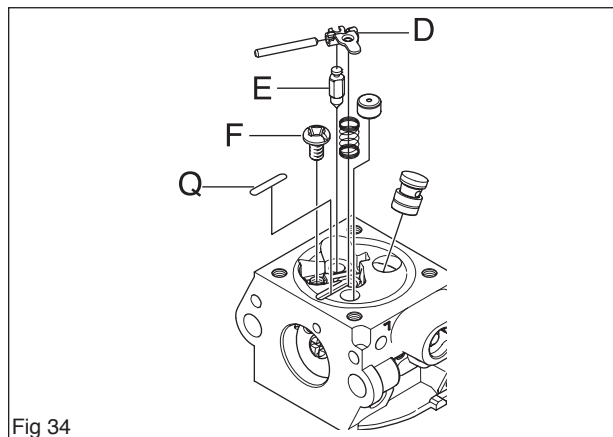

Fig 34
5. Fit the needle valve (E) with lever (D), pin and spring and tighten the screw (F). Fit welch plug (Q) (see figure 34).